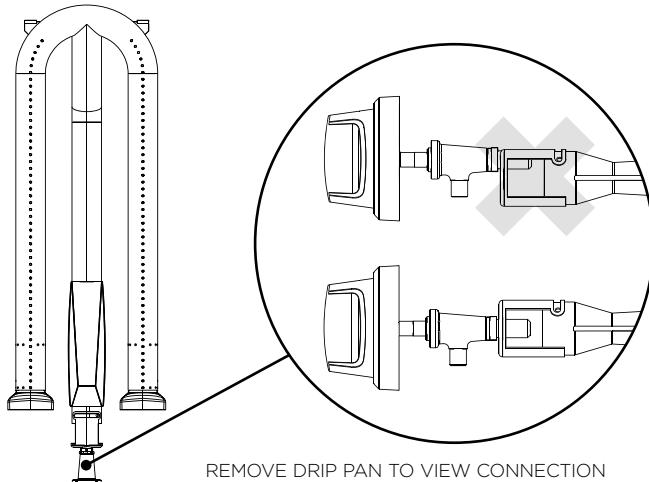
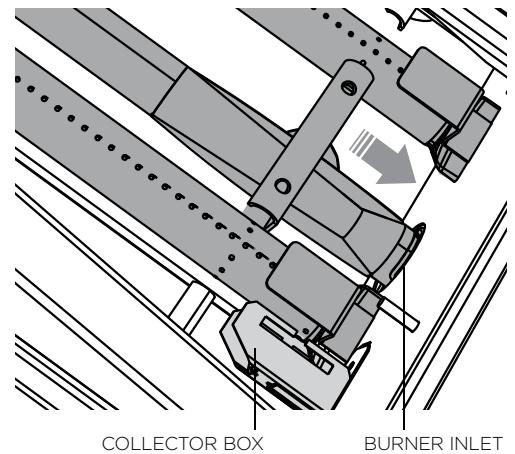

Fig. 32
Fig. 34
- ① With the burner held at a 45 degree angle front to back, lower each grill burner back into place, ensuring that the burner inlet is centred on the injector inside the valve hole in the front (Fig. 32 & 33), and that the burner slides into the collector box on the side, as shown in Fig. 34.
- ② With the burner inlet and side properly in place, locate the tabs at the rear of the burner into the matching slots on the support bracket. Check that the burner is level and does not rock.
- ③ Refit the clamps and fixing screws to secure the burner in place.
- ④ Light all the burners and check for proper flame characteristics. If adjustments are necessary, refer to the 'Burner adjustment' page in the 'Installation' section.
- ⑤ Once you have verified that the burners function correctly, replace the grease shields, radiant trays, and grill grates.